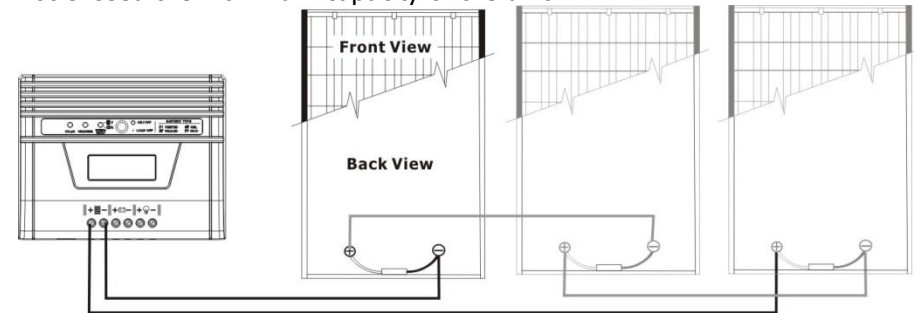

Fig. 8
**2) Multiple solar modules in series connection (Refer to Fig. 8):** All modules must be equal in voltage and amp hour capacity. The sum of their voltages must be equal to the nominal DC Voltage of the unit. And, the sum of their solar power must not exceed the maximum capacity of the unit.